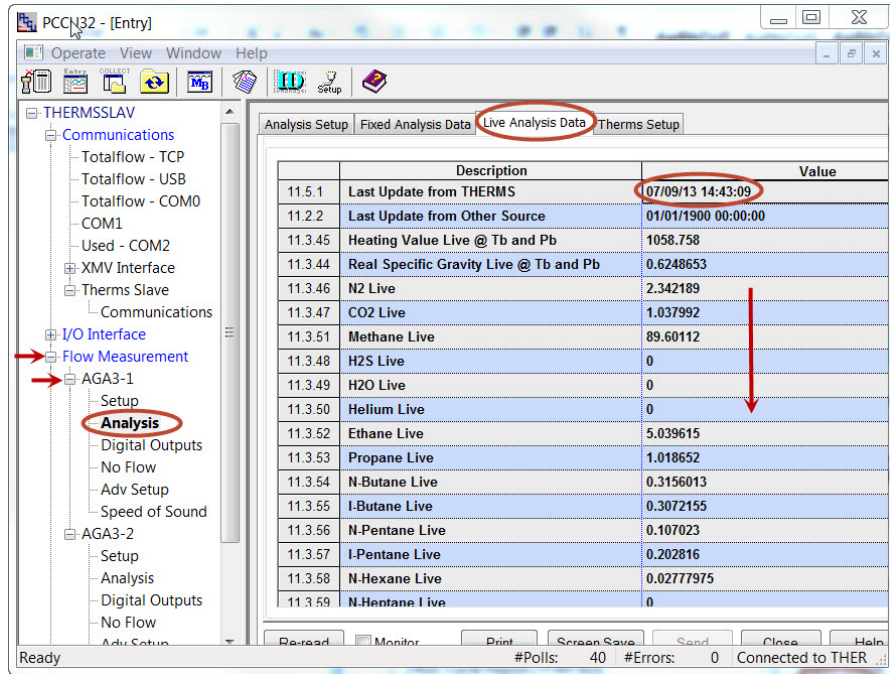

Figure 38. Verify Thermo Slave tube 1 is receiving analysis data
- 8) Verify the application is receiving data by going to the *Live Analysis Data* tab and verify that updates from Therms are received and that the analysis values are displayed (see Figure 38). Update frequency depends on the analysis cycle.